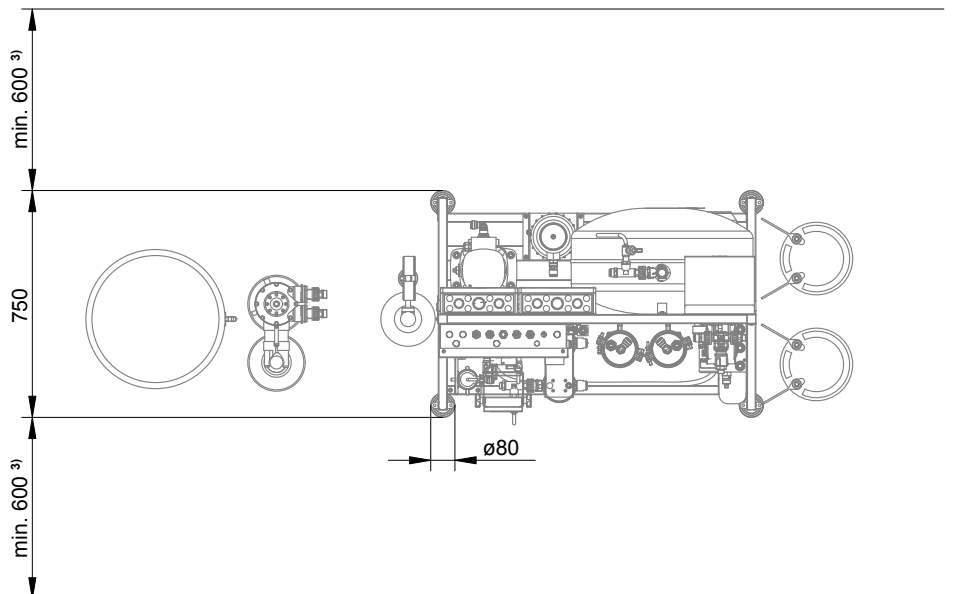

Fig. 5: System dimensions Vita Power RO-DI-CO-UV-HP (dimensions in mm)
Note: The following description for installing the Condair Vita Power applies to all models. Please observe the system dimensions of the individual models (see Fig. 5 to Fig. 8).
1. Place the Condair Vita Power on the floor at the desired location in the room, observing the maximum and minimum distances (see Fig. 5 to Fig. 8).
For the placement and installation of the optional water softener for the models Condair Vita Power RO-DI-CO-UV-HP, Condair Vita Power RO-UV-HP and Condair Vita Power RO, please refer to Fig. 5, Fig. 6 and Fig. 8 and the information and safety instructions in the separate instructions for the softener used.
For the positioning of the deionizing cartridges, please refer to Fig. 5 and the information and safety instructions in the separate instructions for the deionizing cartridges.